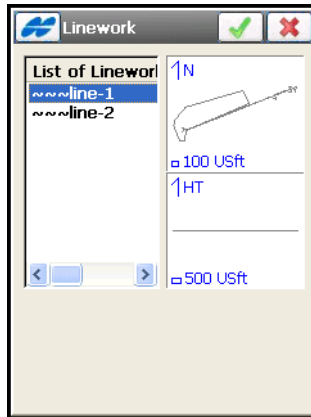

Figure 7-35. Select Linework from List
- **From Line:** opens the *Linework* screen to select the linework from the list (Figure 7-35).